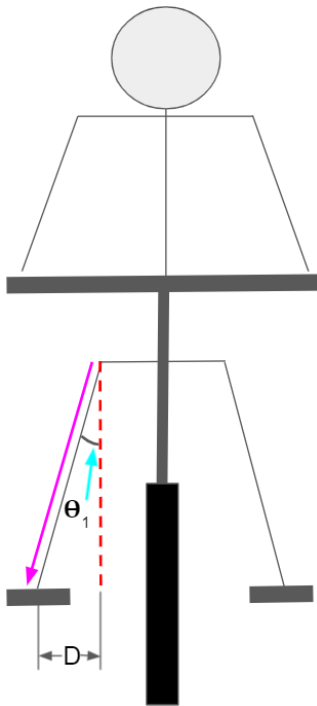
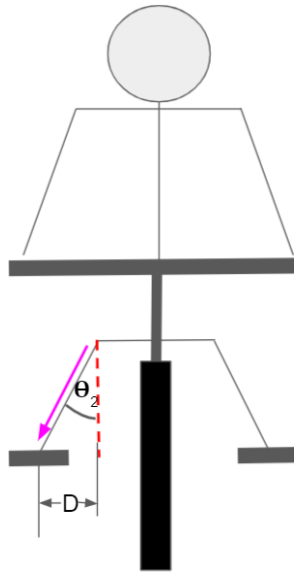

Figure 6A
Figure 6B
- In *Figure 6A* and *Figure 6B*, dimension **D** is the distance between the vertical line where the angle $\Theta = 0$, also known as the location of the ideal Q-Factor/Stance position, to where the rider's foot is on the pedal. This dimension **D** is held to a constant 1" unless otherwise noted.
- Analysis was done for a 21" in-seam and a 24" in-seam. To understand why this was done, consider the "taller" rider in *Figure 6A* compared to the "shorter" rider in *Figure 6B*. If the